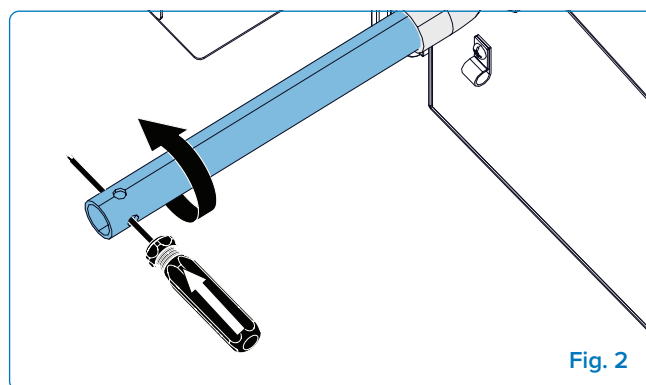

Fig. 2
5. **The smoker outlet pipe** – can be unscrewed for cleaning—insert a screwdriver into the tip holes for extra leverage (**Fig. 2&3**).